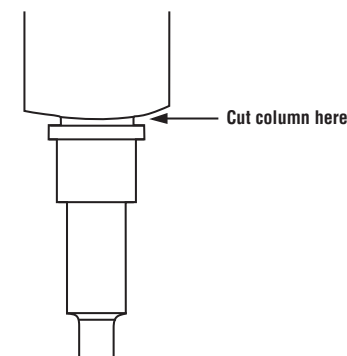

Figure 1. Location of the cut site for separating the Reservoir from the Midicolumn.
6. Dry the resin by continuing to draw a vacuum for 30 seconds after the solution has been pulled through the column. **Do not dry the resin for more than 30 seconds.** Remove the Midicolumn from the vacuum source. Separate the Reservoir from the Midicolumn by breaking or cutting with sharp scissors as shown in Figure 1. Transfer the Midicolumn to a 1.5ml microcentrifuge tube. Centrifuge the Midicolumn at 10,000 × g in a microcentrifuge for 2 minutes to remove any residual Column Wash Solution. Transfer the Midicolumn to a new microcentrifuge tube.